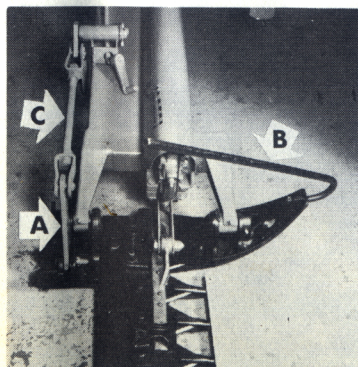

Fig. 12
- Attach the cutter bar to the mower body, see Fig. 12. Attach the lifting link A and the fender rod B to the inner shoe.
- Check the height of the cutter bar above the ground. Adjust the height of the whole bar using the lifting chain. Adjust the height of the outer shoe with link rod C, Fig. 12.
- Set the pitman swinging arm as shown in Fig. 12.